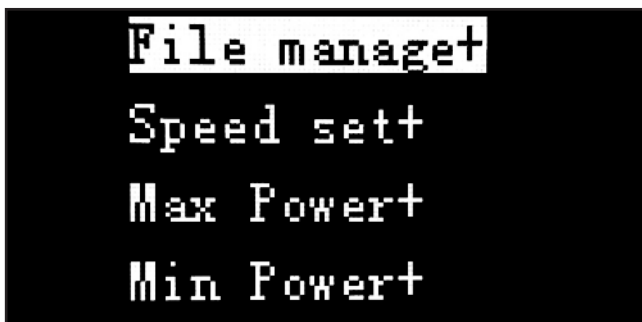

Figure 49. Main menu screen.
9. Press Menu button. Main menu screen will open (see **Figure 49**).